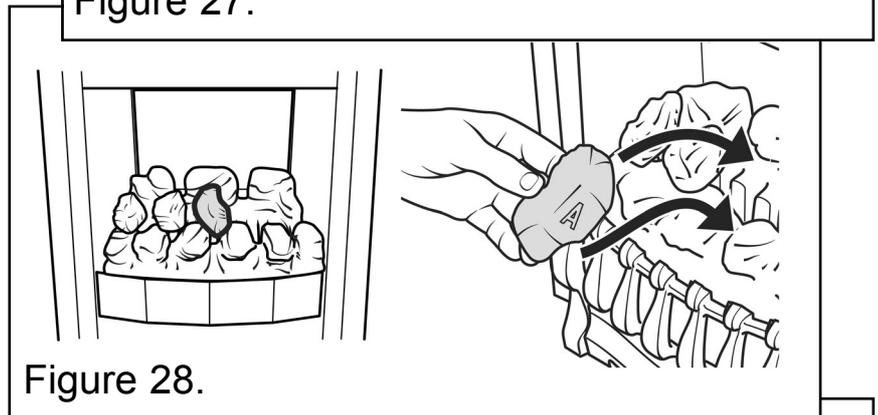

Figure 28.
5. Place a type “A” coal between the front and rear base coals with the letter “A” upright. The top of the coal should rest against the centre coal of the rear base coal as shown in figure 28.